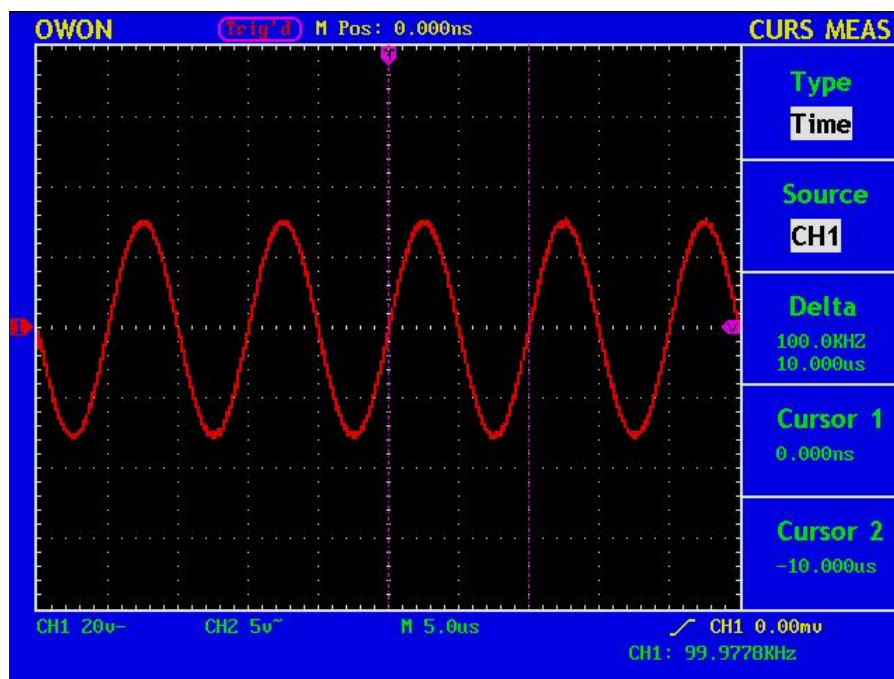

Fig. 72 Wave Form of Cursor Measurement
4. Adjust the positions of **CURSOR1** and **CURSOR2** according to the measured waveform, with the period and frequency of Cursor1 and Cursor 2 displayed in the increment window. The current position of Cursor1 is displayed in the Cursor1 window and that of Cursor2 is displayed in the Cursor2 window (see Fig. 72).